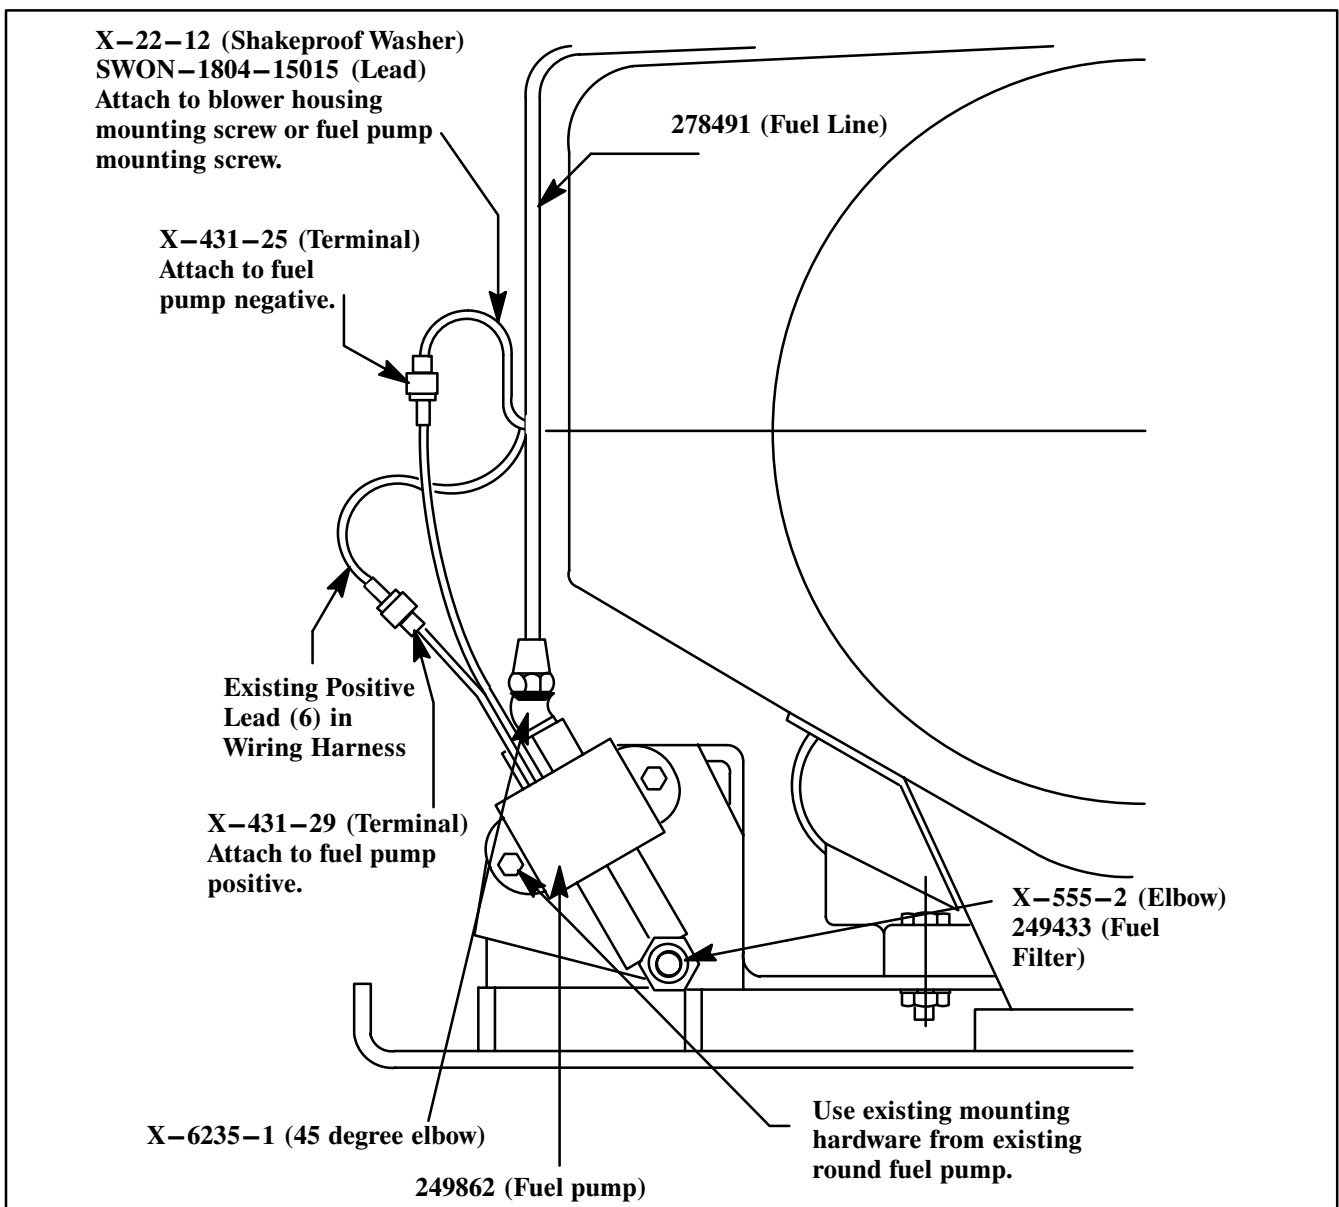

Figure 2.
4. Install new fuel pump as illustrated in Figure 2. Using a standard crimping tool, attach terminal X-431-25 to the fuel pump negative lead. Snap terminal X-431-25 into the already attached terminal on lead SWON-1804-15015. Attach ring terminal end of lead SWON-1804-15015 to blower housing mounting screw or fuel pump mounting screw. Connect X-431-29 terminal to the fuel pump positive lead using a standard crimping tool to attach. Snap in place to existing positive lead (6) in wiring harness.
5. Install new fuel line 278491 and secure to carburetor and new fuel pump. See Figure 2.